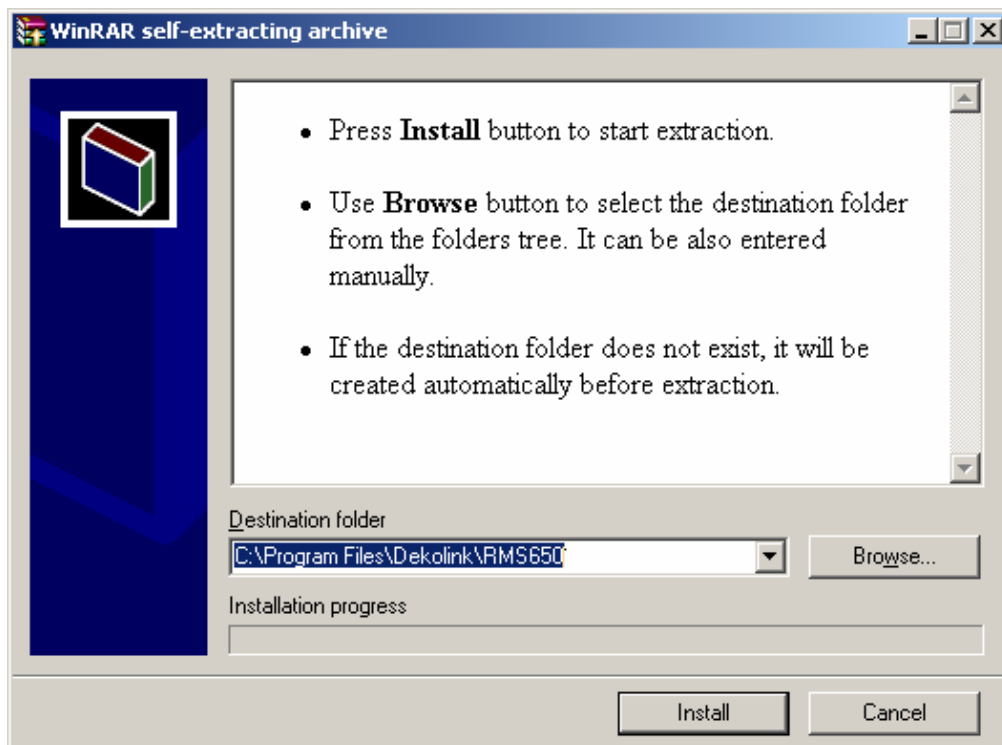

Figure 10: RMS Software – Install Command Screen
4. The Install screen is displayed (see Figure 10)
5. Do NOT change the destination folder in the screen (see Figure 10)